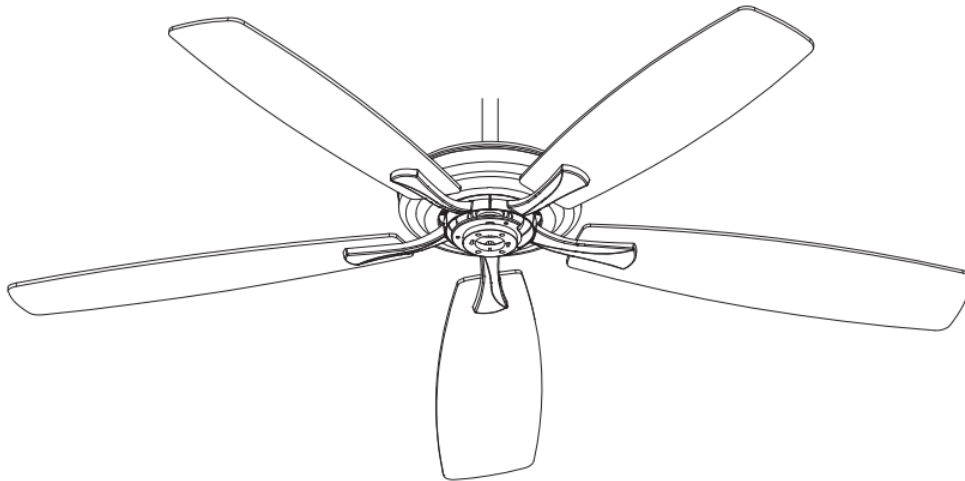
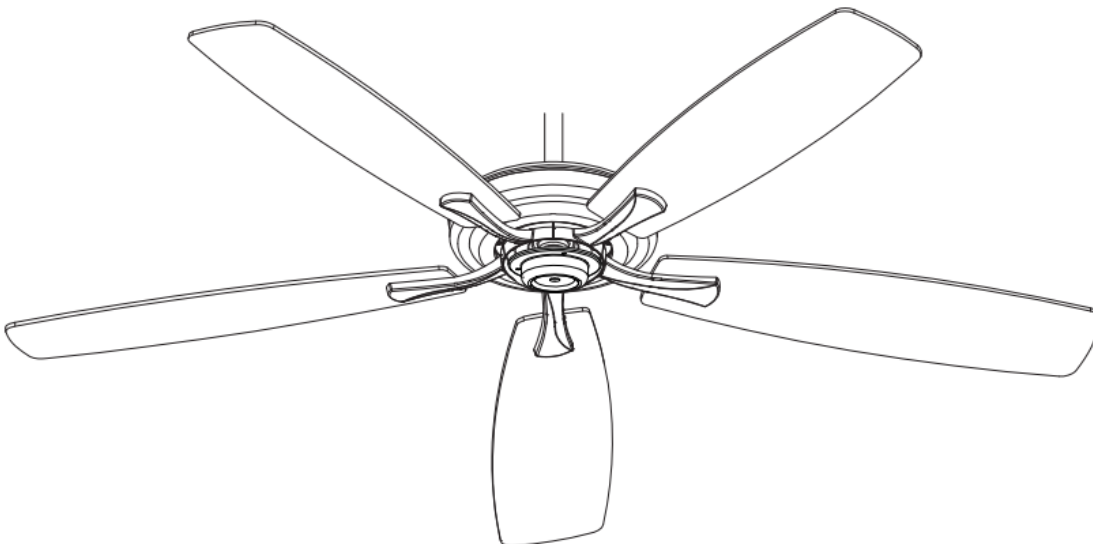

Fig. 6
Fig. 7
INSTALLATION OF BOTTOM COVER (Fig. 6 & Fig.7)
Tighten all three screws. Do not over-tighten. (Fig.6)
5. Install the bottom cover to the adapter then secure it by turning clockwise. (Fig.7)